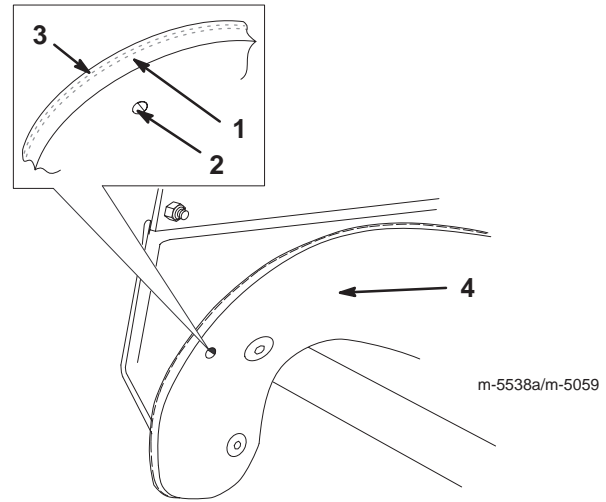

Figure 21
1. Examine a new rotor blade edge for the difference in the thickness of the rubber layers (Fig. 21).
Install the new rotor blade with the thick rubber layer on the *inside* of the curved surface (Fig. 21). If you do not install the rotor blade properly, it will wear out more quickly.
3. Secure the new rotor blade to the rotor halves with the 2 hex-head bolts and 2 locknuts that you previously removed. Position the bolt heads on the thick rubber side of the rotor blade (Fig. 21).
4. Curve the new rotor blade and secure it with the torx screws and locknuts you previously removed, positioning the screw heads on the thick rubber side of the rotor blade (Fig. 21).